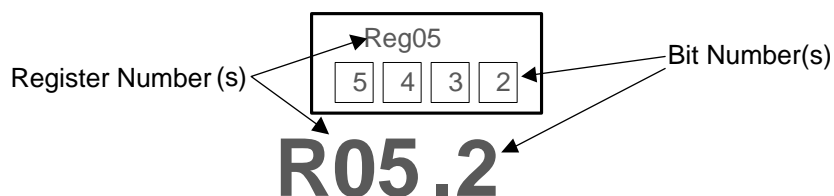

Figure 43. CDCM6208 Register Reference Format
Figure 43 shows the method that this document employs to refer to an individual register bit or a grouping of register bits. If a drawing or text references an individual bit the format is to specify the register number first and the bit number second. The CDCM6208 contains 21 registers that are 16 bits wide. The register addresses and the bit positions both begin with the number zero (0). A period separates the register address and bit address. The first bit in the register file is address 'R0.0' meaning that it is located in Register 0 and is bit position 0. The last bit in the register file is address R31.15 referring to the 16th bit of register address 31 (the 32nd register in the device).